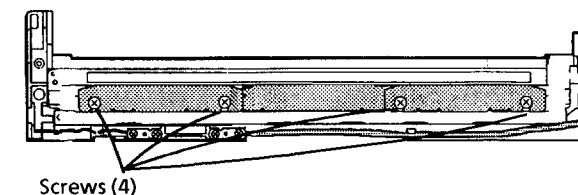

Figure 1. Adjusting the Lamp Shades
3. Loosen the screws and adjust the lamp shades as required in order to open or close the opening that is to the left of the Exposure Lamp (Figure 1).